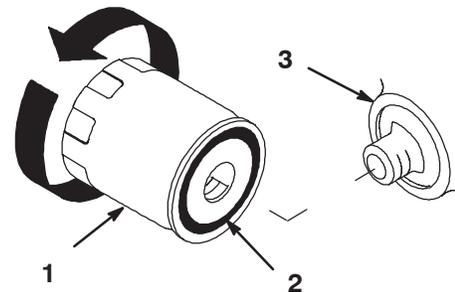

Figure 62
2. Remove the old filter and wipe the filter adapter (Fig. 62) gasket surface.
4. Apply a thin coat of new oil to the rubber gasket on the replacement filter (Fig. 62).
5. Install the replacement oil filter to the filter adapter. Turn the oil filter clockwise until the rubber gasket contacts the filter adapter, then tighten the filter an additional 1/2 turn (Fig. 62).